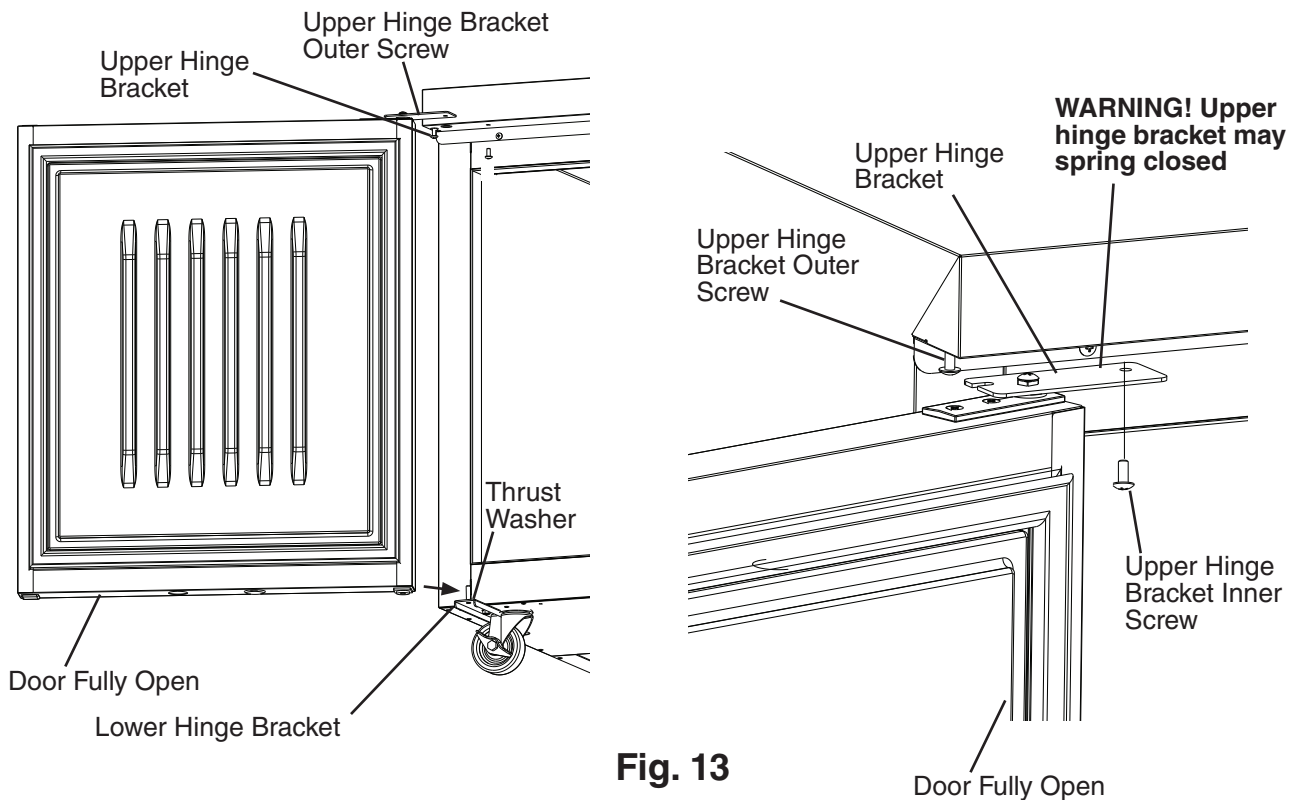

Fig. 13
- 14) Be sure the lower hinge bracket thrust washer is in place, then place the door on the lower hinge bracket in the fully open position. Slide the door upper hinge bracket outer slot onto the upper hinge bracket outer screw. See Fig. 13.